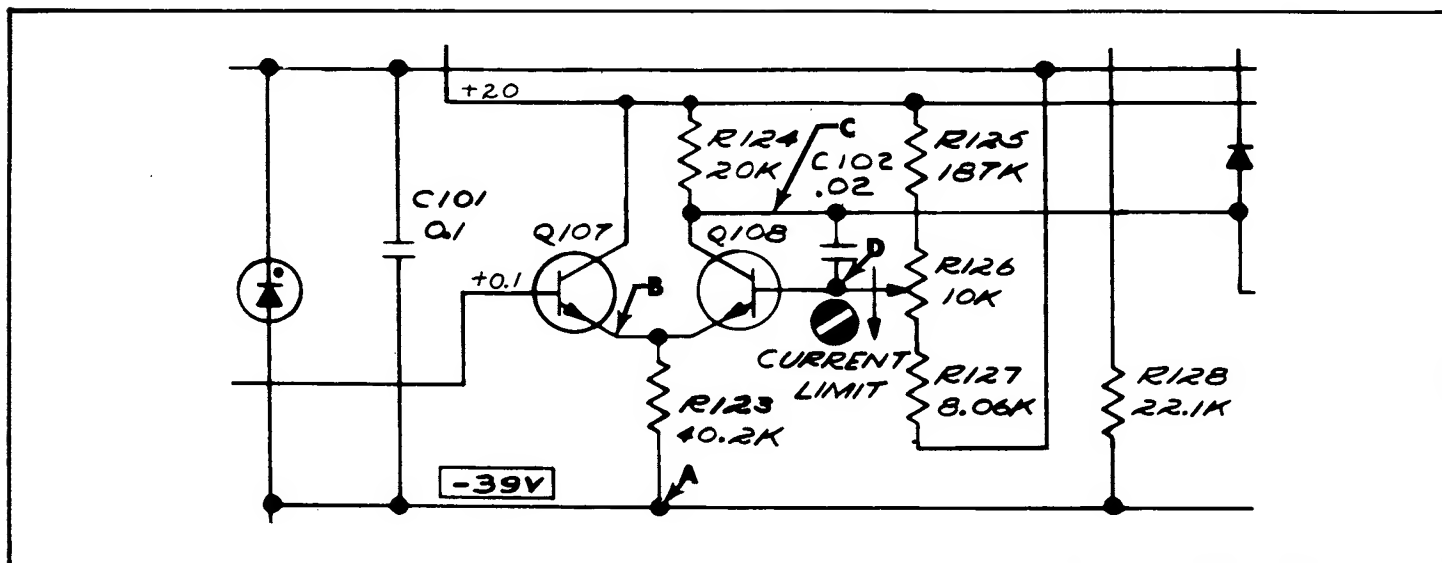

FIGURE 7. Test Points, Current Limit Circuit.
TABLE 5. Current Limit Circuit Voltages. These values were measured with the Model 153 to $\pm 15\%$. The Voltage Dials are set to 000 and the OUTPUT Switch to -. The range from -36 to -44 volts is the limits of the voltages across the zener diode D106. The points B, C, and D are indicated in Figure 7.
d. Voltages within the current limit amplifier vary considerably, depending upon the voltage across zener diode D106. Nominally, the voltage is -39 volts. Table 5 gives the correct values for points in Figure 7 for voltages within the limits of the zener if the instrument is working properly.